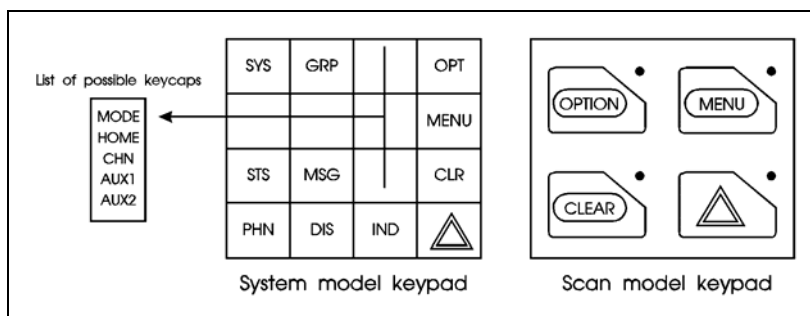

Figure 8-3: Standard M7100^{IP} Keycaps Configuration
The Standard keycap package for the System radio includes five (5) labeled keycaps (MODE, HOME, CHN, AUX1 and AUX2) and six (6) blank keycaps, which can be placed on any of the five key locations (numbers 3-6 and 9) shown in Figure 8-3. The keycap represents the primary function programmed for that key location. See Section 8.7.3 for a description of the primary function associated with these five (5) keycaps.